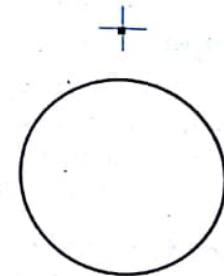

FIG. 14.6
**Example:** Draw a circle with diameter equal to 80 mm. Refer figure 14.6..